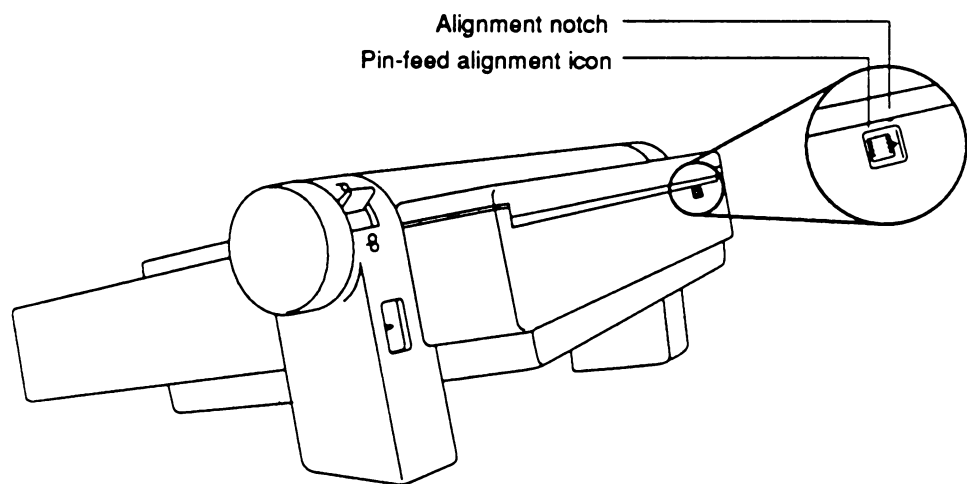

Figure 13. The pin-feed alignment icon
7. Find the **pin-feed alignment icon** on the back panel of the printer and the **alignment notch** directly above it. (See Figure 13.) Slide the tractor until the paper edge (not the perforation) is lined up with the notch and the vertical line on the icon.